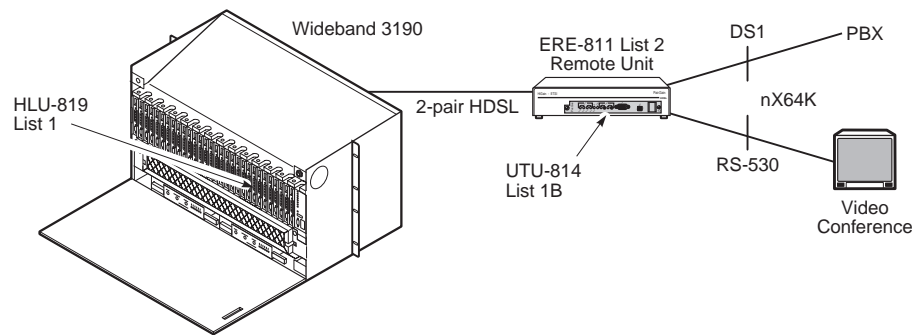

Figure 1. Typical HLU-819 List 1 Application
This guide contains installation information for the HiGain® Line Unit HLU-819 List 1. The HLU-819 installs in any 3192-compliant chassis and interfaces with the HiGain ETSI™ Universal Termination Unit UTU-814 List 1B. The HLU-819 and the UTU-814 provide the Central Office (CO) and remote terminal (RT) sides of a repeaterless, High-bit-rate Digital Subscriber Line (HDSL). The RT provides both DSX-1 (T1) and data interface (V.35, V.36, RS-449, X.21, or RS 530) ports to the customer (see Figure 1). The HLU-819 accepts the respective payloads through a DSX-1 port from a multiplexer or a DS1 cross-connect shelf and transports it to the UTU-814 List 1B at a maximum data rate of up to 1.544 Mbps. An internal time slot assignment function splits the DS1 bandwidth as two Nx64K tributaries between these two ports.